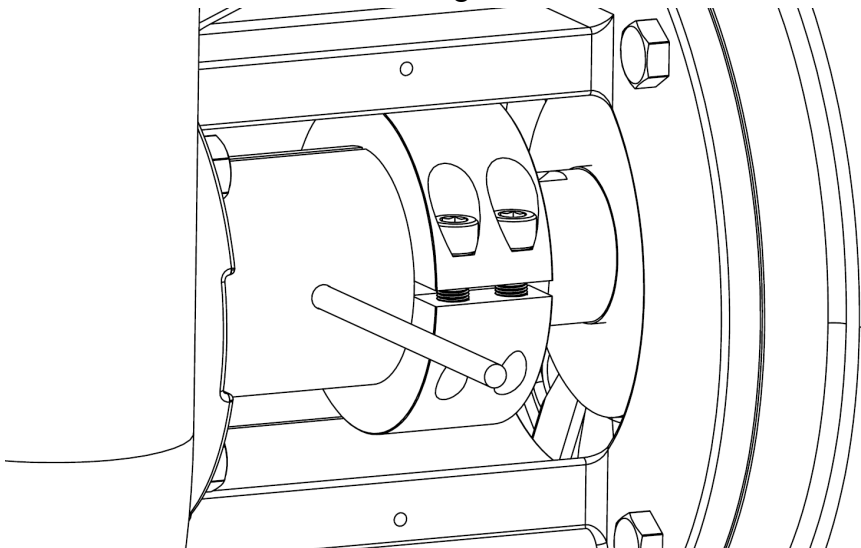

Figure 21
4. Insert a 3/8" bar in the hole in the stub shaft. See figure 21. Turn the impeller nut with a socket wrench counterclockwise to remove the impeller nut.